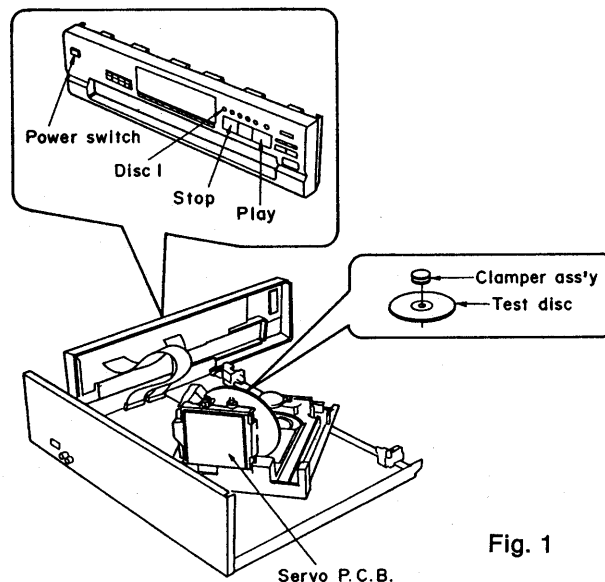

Fig. 1
6. Place the test disc and secure it by using clumper ass'y. (Refer to Fig. 1)